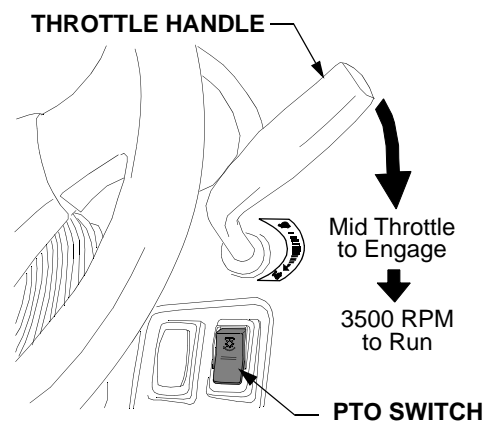

Figure 19
- Move the throttle handle to the mid throttle position. See Figure 19.
- Push the *top* of the PTO switch downward to engage the PTO (See Figure 19). The PTO light on the instrument panel will come on.